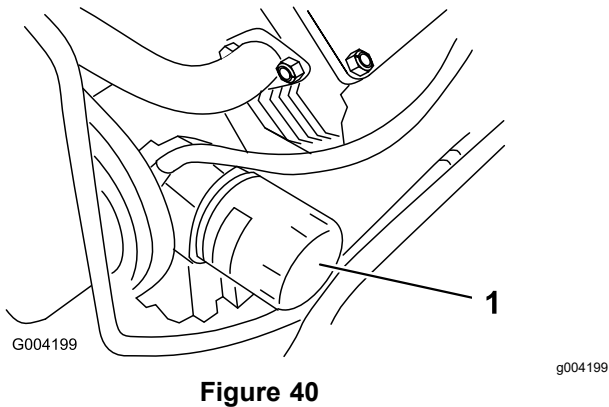

Figure 40
4. Remove the old filter (Figure 40) and wipe the surface of the filter adapter gasket.